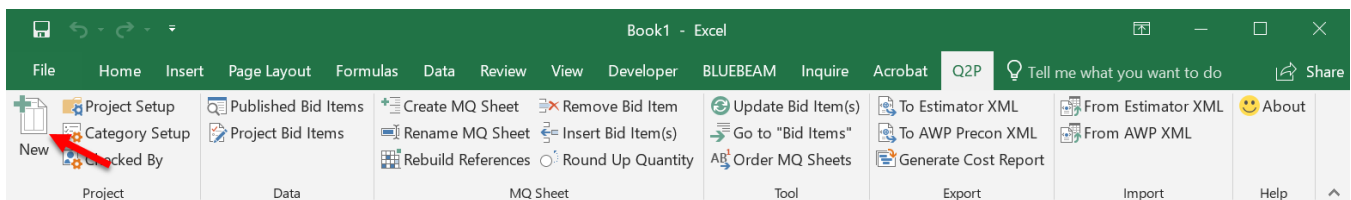
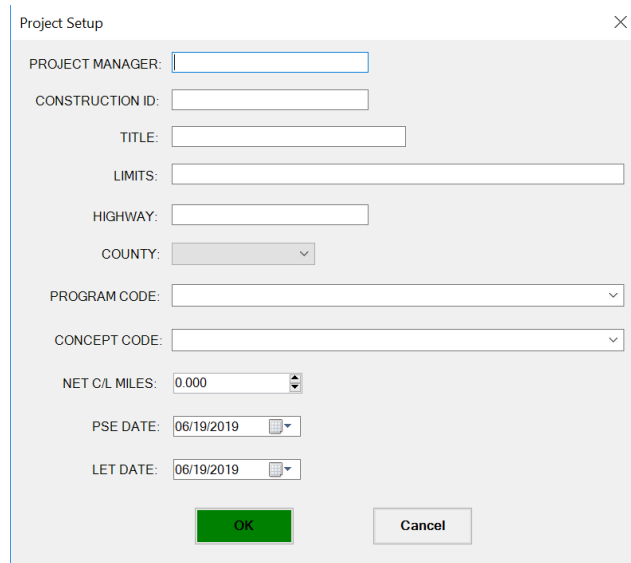
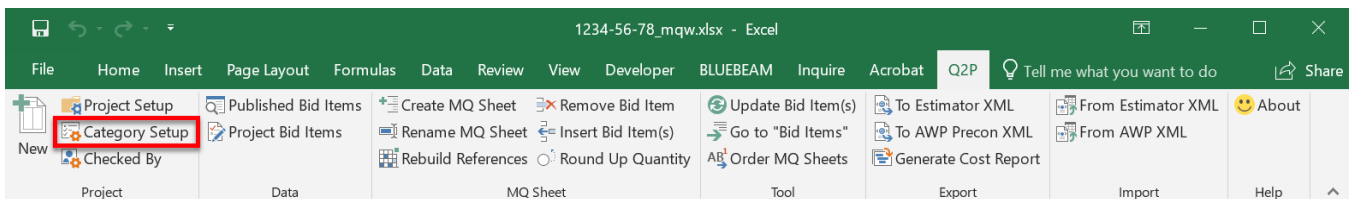

Figure 2.2 The “New” button under the Project section of the Q2P ribbon.
Figure 2.3 Project Setup window.
Figure 2.4 The “Category Setup” button under the *Project* section of the Q2P ribbon.
2. An internet connection is required for this step, and the project setup window shown below, may take 10 seconds or more to display depending on your internet connection. Q2P will contact WisDOT’s AWP server and copy the list of published Bid Items to this Q2P workbook. Select **New** (Figure 2.2) from the *Project* section of the Q2P ribbon to initialize the project setup window (Figure 2.3) and enter all project information. The information in Q2P must match FIIPS information **EXACTLY**.
4. Select **Category Setup** (Figure 2.4) from the *Project* section of the Q2P ribbon to initialize the category setup window (Figure 2.3) and enter all category information. Select OK when finished. This process must be repeated for each new category.